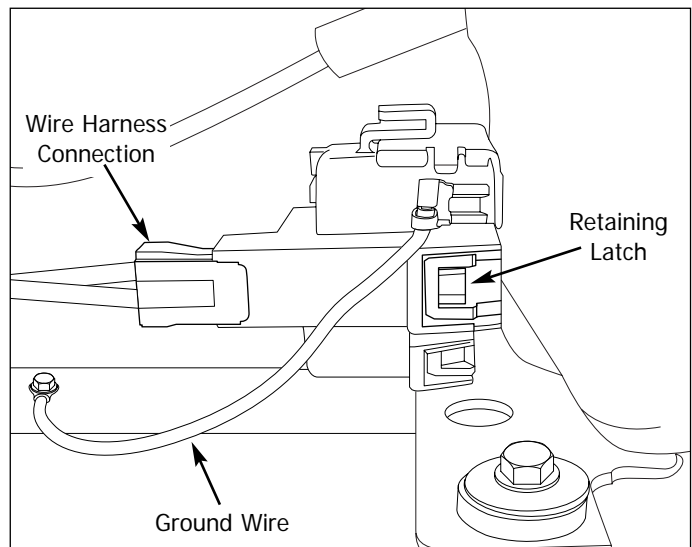

Figure 5-24. Compressor Electrical Component Removal
The compressor sits on four grommets and is secured with four screws to the compressor mounting plate. (See Figure 5-24 & 5-25)
6. Using a 7/16" socket, remove the (4) bolts, one in each corner, holding the compressor to the base. (See Figure 5-24)